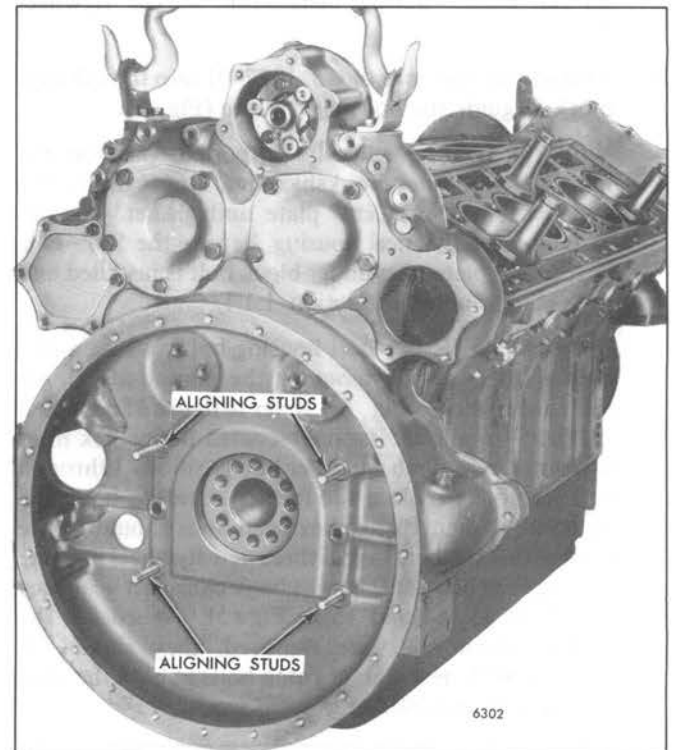

Fig. 1 – Installing Flywheel Housing, Using Oil Seal Expander Aligning Studs
3. Thread two aligning studs J 1927-01 into the cylinder block to guide the housing in place (Fig. 1).